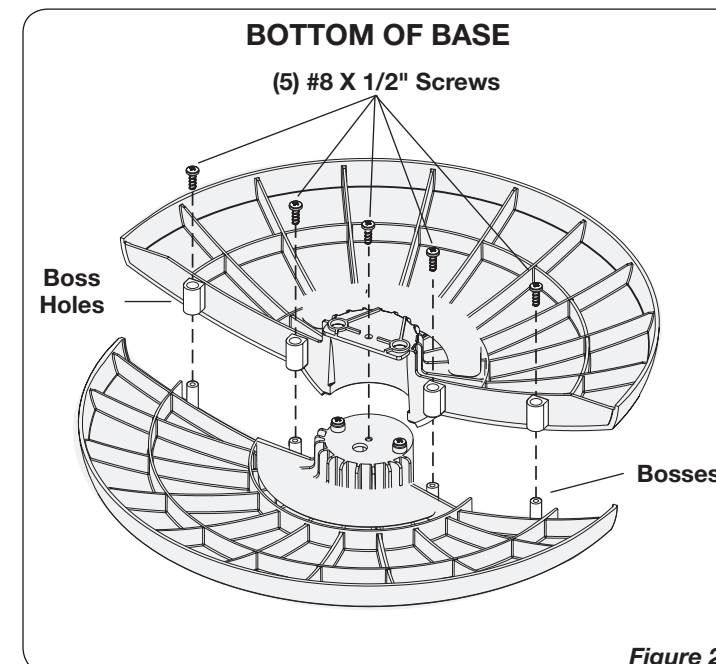

Figure 2
BASE ASSEMBLY (Figure 2)
2. Secure the (5) #8 X 1/2" Screws into the Boss Holes on the Bottom of Base. (*Figure 2*)